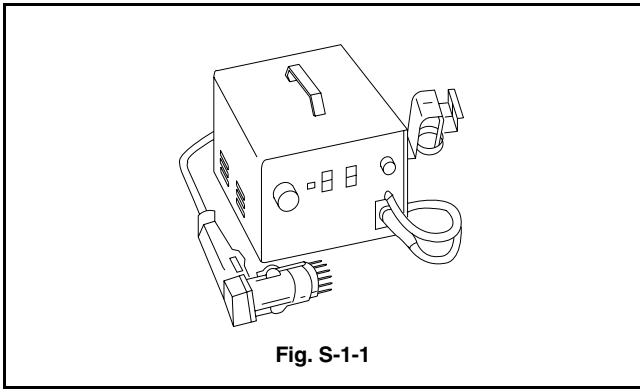

Fig. S-1-1
- a. Prepare the Hot - Air Flat Pack - IC Desoldering Machine, then apply hot air to Flat Pack - IC (about 5~6 seconds). (Fig. S-1-1)